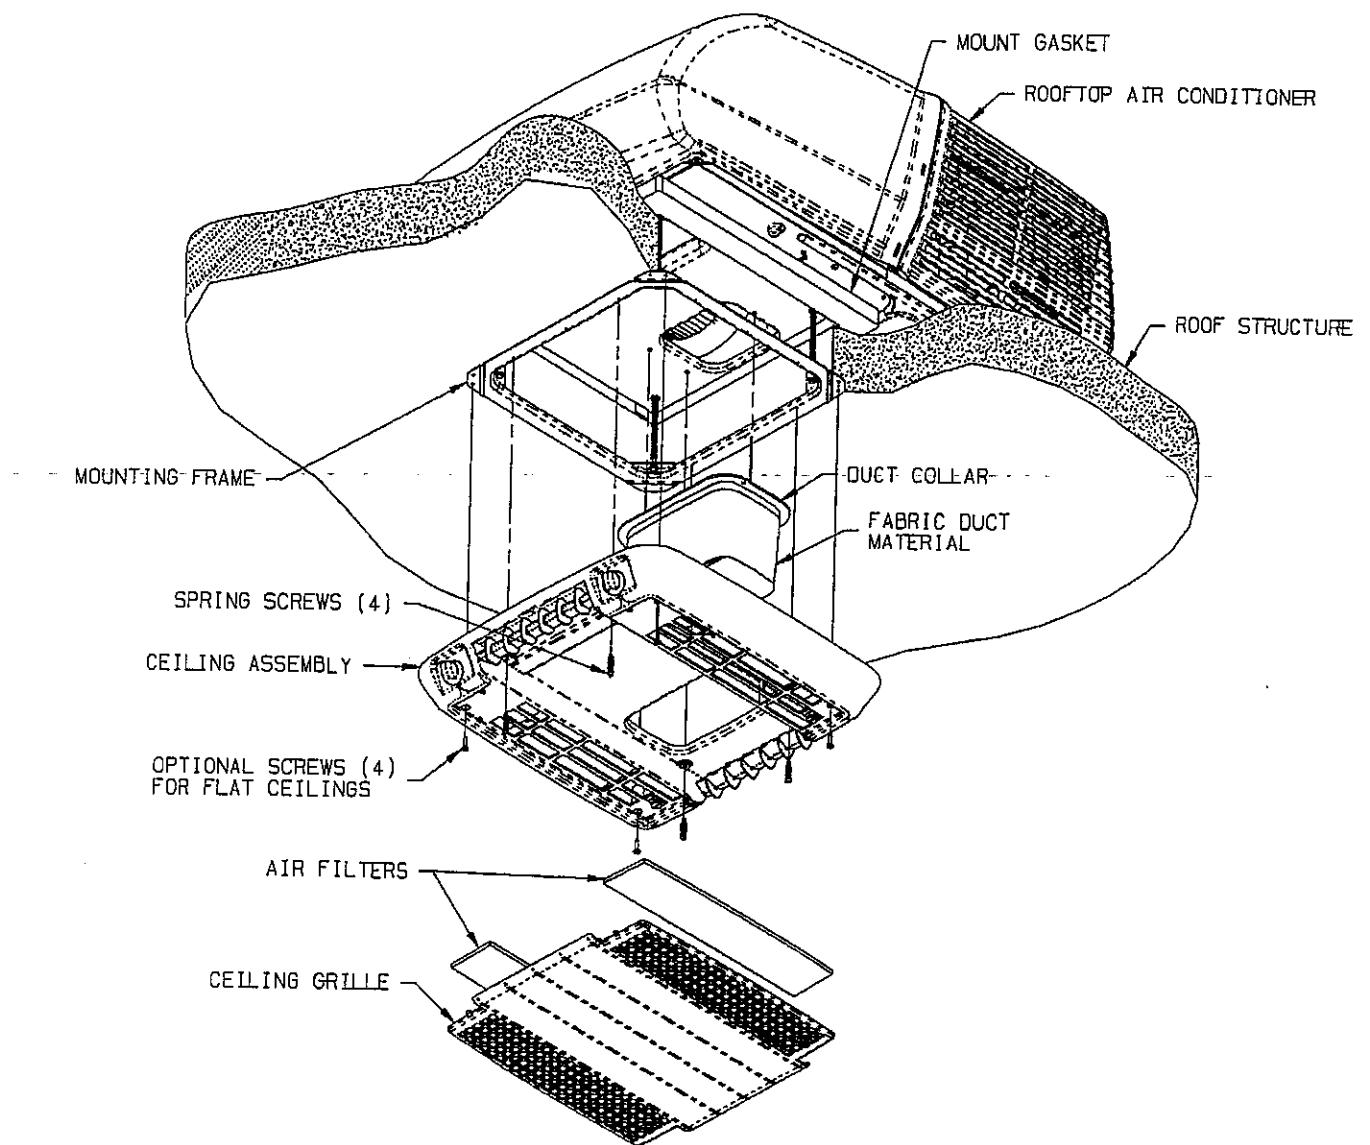

FIGURE 9
- D. Fasten the duct collar to the basepan of the air conditioner with three (3) screws (See Figure 9).
I. Raise the ceiling assembly and secure to the mounting frame with 4 provided shoulder screw/spring assemblies. The front two screws should pass through the clearance holes in the metal control box shield (See Figure 9).